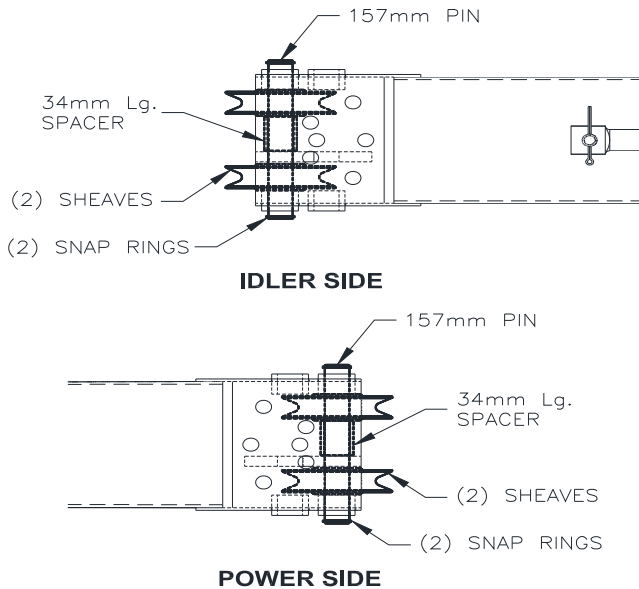

Fig 8 – Symmetric Sheave Assembly
- 18) With the Overhead positioned **UPSIDE DOWN**, assemble the cable sheaves, spacers, and pins as shown in **Fig 8** below.